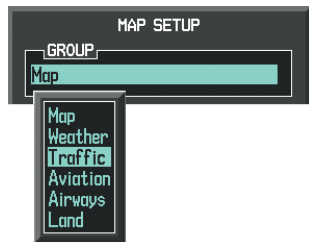

Figure 6-129 Navigation Map Page Setup Menu
- 4) Turn the small **FMS** Knob to select the Traffic Group and press the **ENT** Key (Figure 6-129).